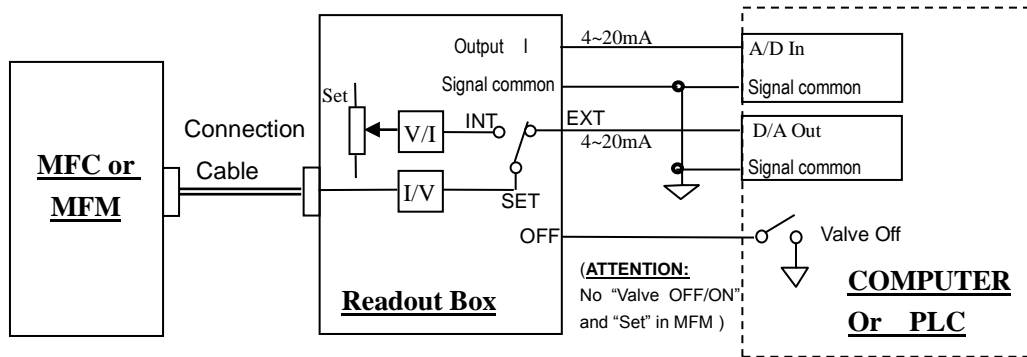
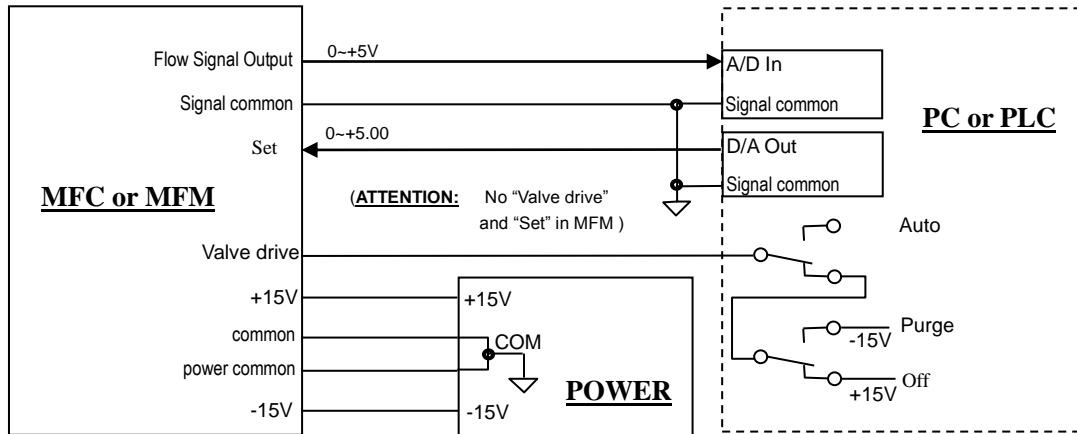

Figure 7. Connection with PC through Readout Box
Figure 8. PC Directly Connection
- a. Connection through Flow Readout Box with PC or other external signal. (Figure 7)
If PC or PLC need perform the OFF and PURGE function of valve control, it could be accomplished by use two RELAYS (two sets) transfer contacts. One relay controls OFF and another one controls PURGE, when these two relays are not operating then it reaches to auto-control mode. Please be careful, it should be not caused short circuit by two relays simultaneously operating. Suggested relays connection as method as showing in Figure 7.
b. PC Directly Connections (Figure 8)
If users need PC performs AUTO, OFF and PURGE functions, we suggested connection as showing as in Figure 8.
Please have the reference in Figure 7 and Figure 8, after MFC warming up, it could have PC startup.